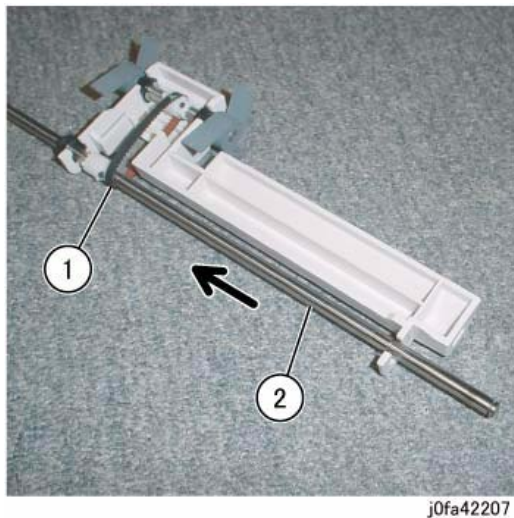

Figure 7 Removing Shaft Assembly
10. Remove the Shaft Assembly (Figure 7):